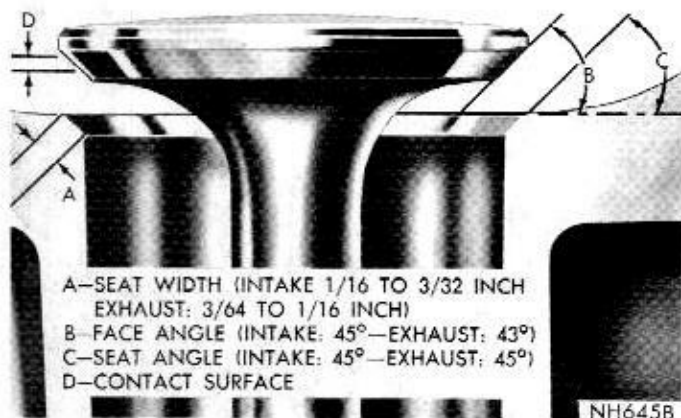

Fig. 12—Valve Face and Seat Angle
(1) The intake and exhaust valve seats and the intake valve face have a 45 degree angle. The exhaust valve face has a 43 degree angle. The valve face and valve seat angles, are shown in Figure 12.